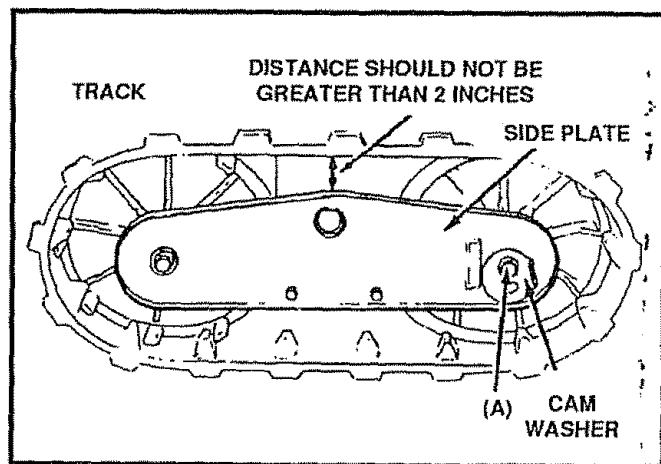

FIG. 38
- Loosen the bolts (See Fig. 38, A) on both sides of the track assembly.